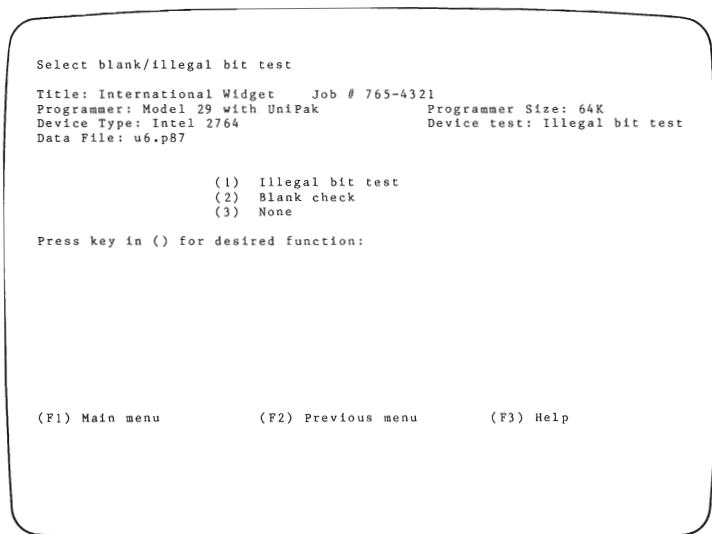

Figure 3-6. Blank Check/Illegal Bit Test
When you select (4) from the Program Device menu, PROMlink will go to the *Blank Check/Illegal Bit Test* menu shown in figure 3-6. From this menu, you can choose the following options:
- (1) Illegal Bit Test
- (2) Blank Check
- (3) None (This allows the user to disable the test before programming.)